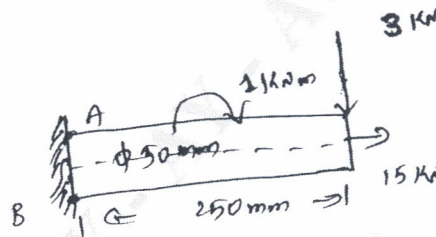

Fig Q1(b)
- b. A circular rod of diameter 50 mm is subjected to loads as shown in Fig Q1(b). Determine the nature and magnitudes of stresses at the critical points.